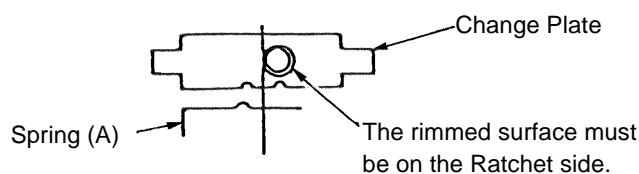

Fig. 6
(2) Reassembly of the Holder Section:
When reassembling the Change Plate ⑩ (⑪) and Spring (A) ⑪ (⑫) in the Holder ⑫ (⑬), be very careful to ensure that each part is properly aligned. (See Fig. 6)